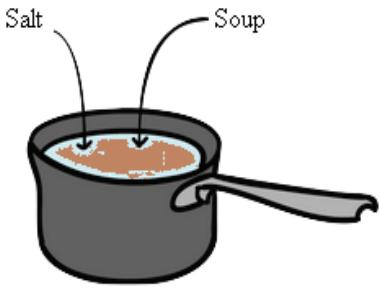

Figure 10.1 Example of an open system
1. **An open system** is a system that can exchange both matter and energy with the surroundings (Figure 10.1).
According to **Figures 10.1** and **10.2**, both the saucepans without a lid and with a lid, respectively, can absorb heat from the stove and get heated. There is exchange of energy taking place in both cases from the stove (surroundings) to the water (system). However, the saucepan with the lid prevents any exchange of matter. That is, no matter is added to or removed from the saucepan. On the other hand, in the case of the saucepan without the lid various substances can be added or removed from the saucepan and thus changing the mass of the content. As a conclusion, the lid prevents the exchange of matter between the system and the surroundings.